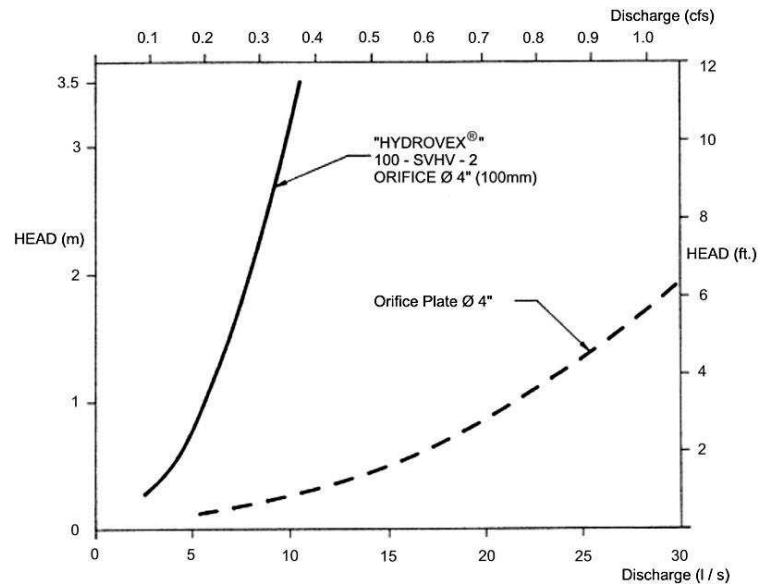

FIGURE 2: DISCHARGE CURVE SHOWING A HYDROVEX® FLOW REGULATOR VS AN ORIFICE PLATE
- The geometry of the **HYDROVEX® VHV / SVHV** flow regulators allows a control equal to an orifice plate, having a cross section area 4 to 6 times smaller. This decreases the chance of blockage of the regulator, due to sediments and debris found in stormwater flows. **Figure 2** illustrates the comparison between a regulator model 100 SVHV-2 and an equivalent orifice plate. One can see that for the same height of water, the regulator controls a flow approximately four times smaller than an equivalent orifice plate.